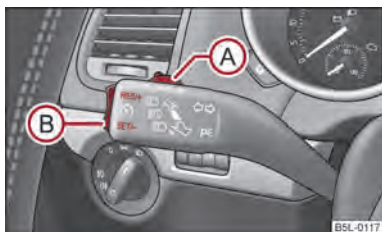

Fig. 104 Operating lever: Rocker button and switch of the cruise control system
The cruise control system is operated by means of the switch **(A)** ⇒ fig. 104 and the rocker button **(B)** in the left lever of the multi-functional switch.
- Press the switch **(A)** ⇒ fig. 104 into the position **ON**.
- You can **increase** the stored speed without depressing the accelerator, by pressing the rocker button **(B)** ⇒ fig. 104 in the **RES** position.
The **Resumption** of the stored speed is achieved by releasing the brake or clutch pedal, on vehicles fitted with automatic gearbox only after releasing the brake pedal and after shortly pressing the rocker button **(B)** → fig. 104 into the position **RES**.
- Press the switch **(A)** → fig. 104 to the right into position **OFF**.